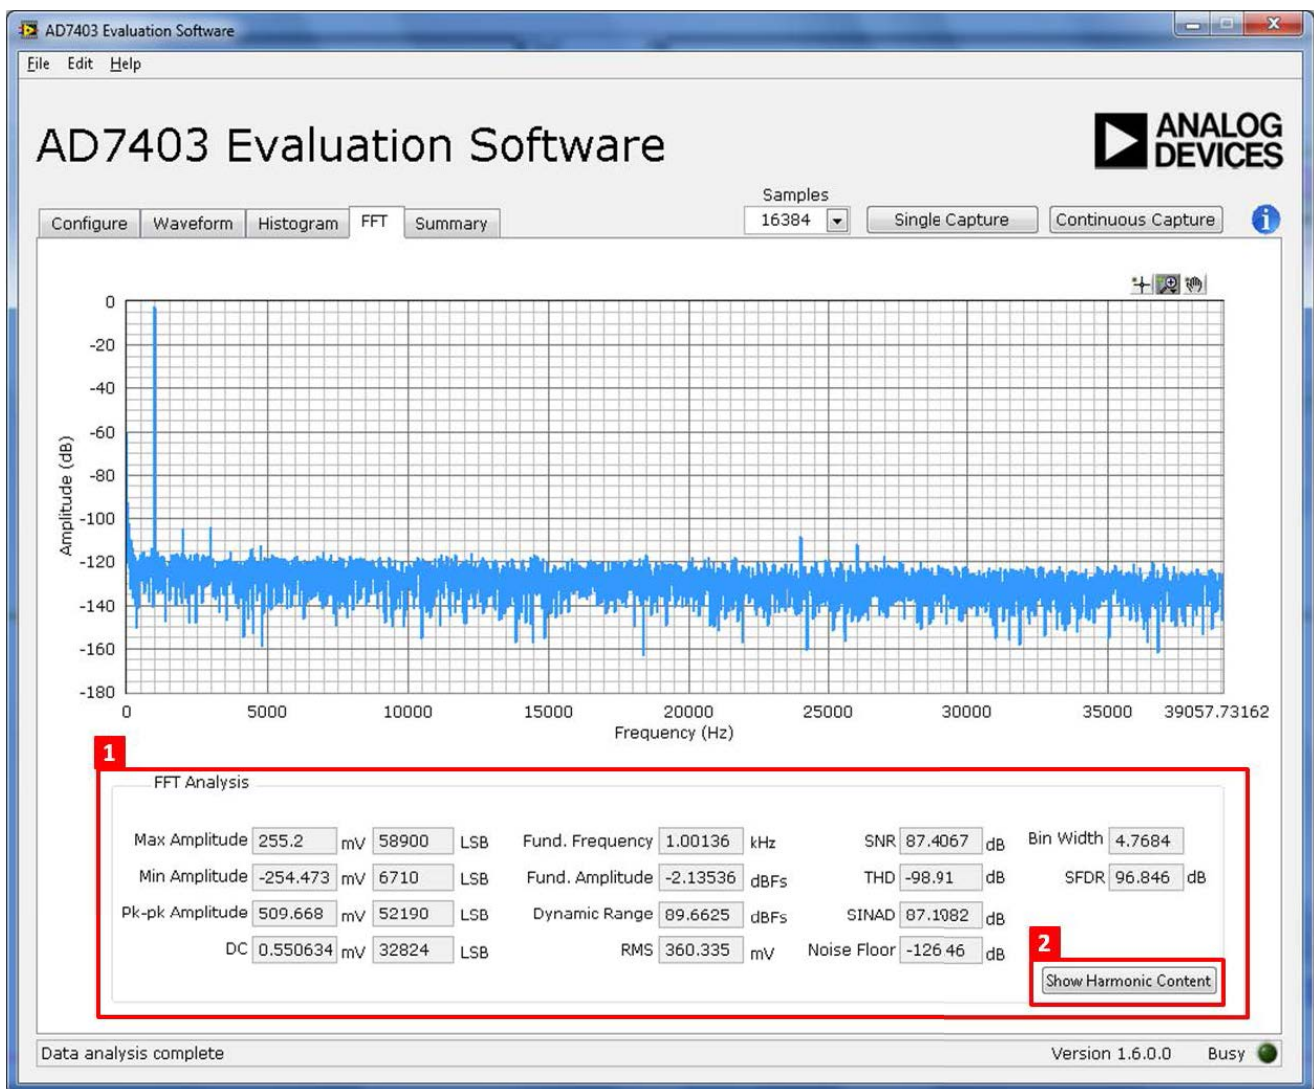

Figure 19. FFT Capture Tab
Figure 19 shows the **FFT** tab. This feature tests the traditional ac characteristics of the converter and displays a fast Fourier transform (FFT) of the results.
Figure 19 displays the spectral analysis results of the captured data.
- The **FFT Analysis** box displays the performance data: SNR, THD, SINAD, dynamic range, and noise performance along with the input signal characteristics (see label 1 in Figure 19).
- Clicking **Show Harmonic Content** (see label 2 in Figure 19) displays the frequency and amplitude of the fundamental in addition to the second to fifth harmonics.